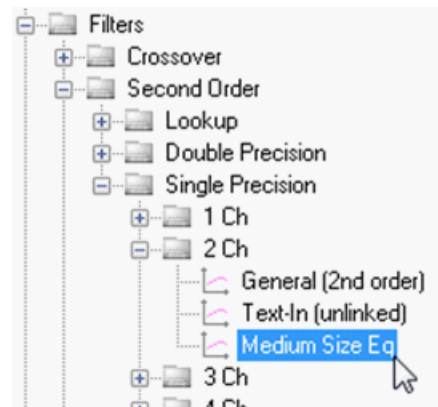

Figure 24. EQ Cell Selection
- Navigate to the **Filters > Second Order > Single Precision > 2 Ch** folder and select a **Medium Size Eq** cell (see Figure 24).